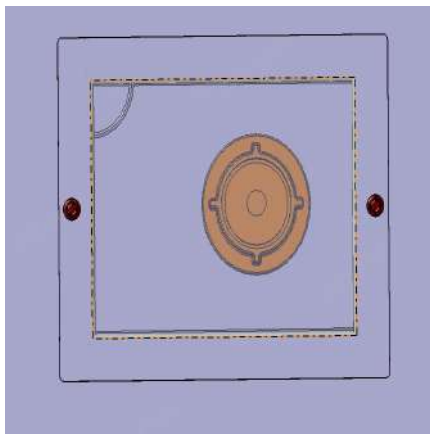

Figure 5-30
- As shown in Figure 5-30, use the socket tool to remove the M5 flange nut, and then open the air duct.